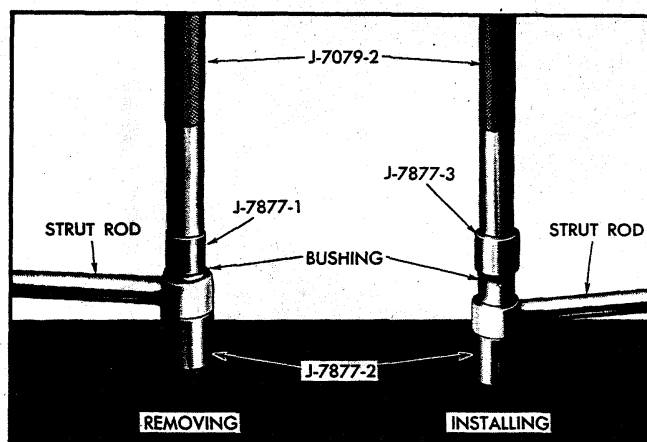

Fig. 55—Strut Rod Bushing Replacement
1. With strut rod bushing centered over Tool J-7877-2 and with strut rod supported horizontally, press or drive bushing from rod, using Tools J-7877-1 and J-7079-2 as shown in Figure 55.
2. With strut rod end centered over Tool J-7877-2 and rod supported horizontally, press or drive bushing into arm using Tools J-7877-3 and J-7079-2 as shown in Figure 55. Tool J-7877-3 should bottom on strut rod when bushing is fully installed.